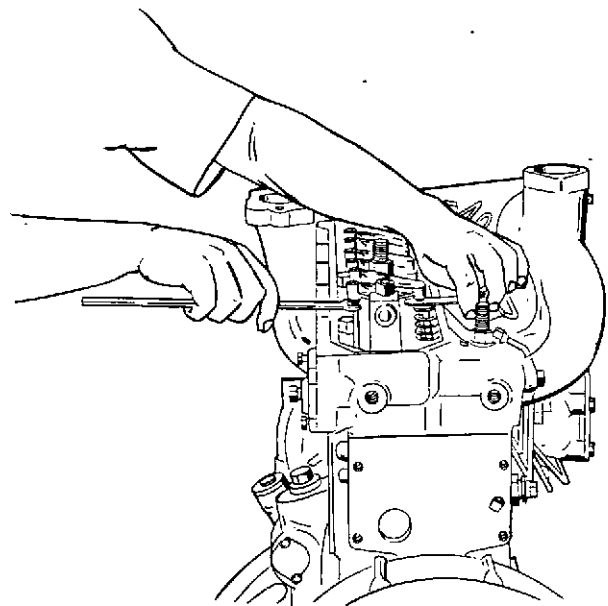

Figure 3-2. Valve Clearance Check and Adjustment
c. With the engine running at slow idle, check for 0.015 inch clearance between the rocker arm and end of the valve stem, using a feeler gauge as shown in figure 3-2
d. If the valve clearance is incorrect, adjust the setting of the adjusting screw to provide the required clearance. Refer to figure 3-2. When properly adjusted, there will be a slight drag on a 0.015 inch feeler gauge with the valve in the unoperated position.